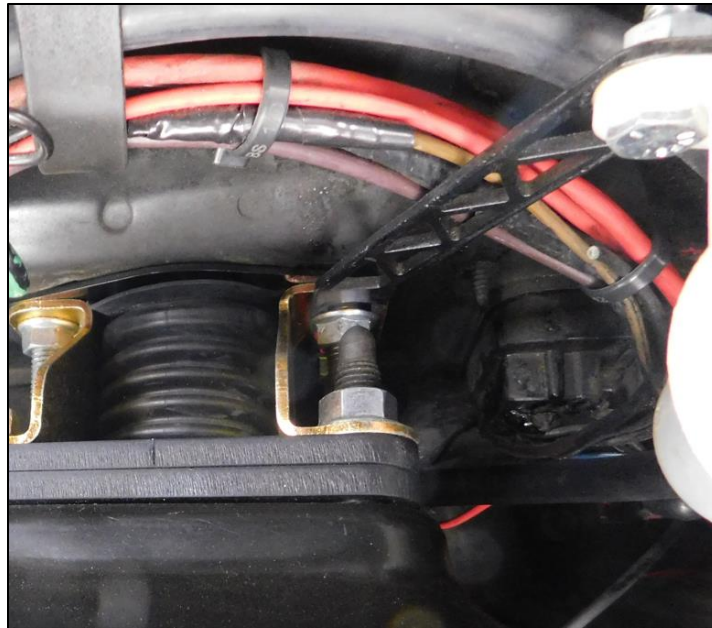

Figure 7: Reservoir Bracket
25. The clutch master cylinder reservoir mount will mount to the brake booster bracket as shown in Figure 7.